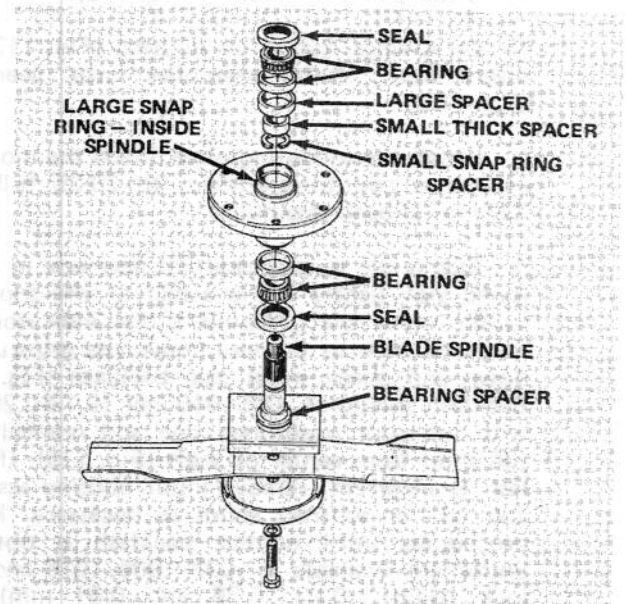
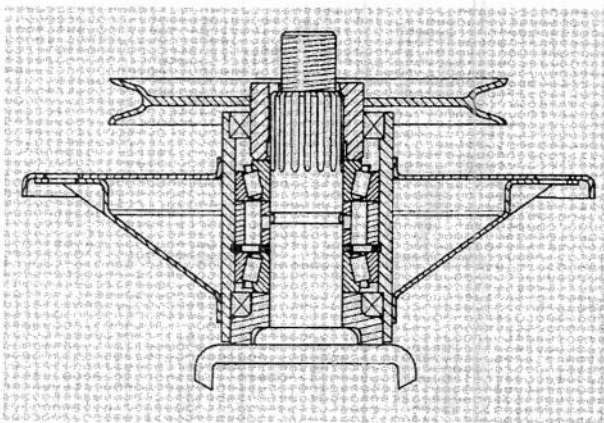
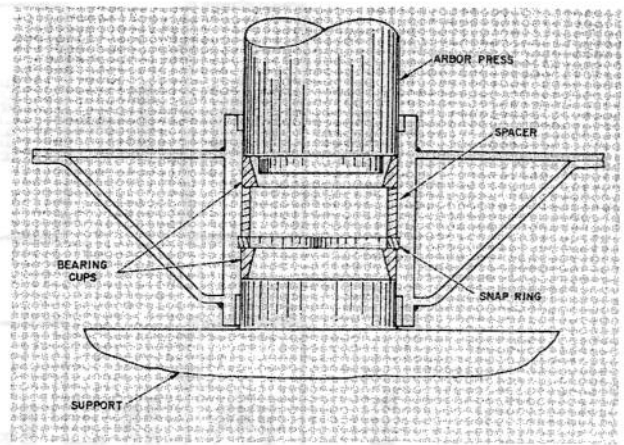

Figure 118
Figure 119
Figure 120
7. If spindle shaft will be replaced, remove capscrew, lockwasher, anti-scalp cup and blade from spindle shaft (Fig. 118). Otherwise, the blade and its other associated parts may be left on the spindle shaft.
8. Press spindle shaft out of spindle housing (Fig. 118), using an arbor press. Bearing spacer (Fig. 118) remains on spindle shaft as shaft is being removed.
9. The seals (Fig. 118) will be removed next; however, notice the lip of the seal. The lip of the upper seal faces inward, and the lip of the lower seal faces outward. Therefore, new seals must always be
10. Allow bearings, small thick spacer and small snap ring spacer to fall out of spindle housing (Fig. 118).
11. Using a punch and hammer, drive both bearing cups (Fig. 118) out of spindle housing. Also drive large spacer (Fig. 118) out of housing.
1. Install large snap ring into groove in bore of spindle housing (Fig. 119). Assure snap ring is seated in the groove.
2. Using an arbor press, push the large spacer into top of spindle housing and tightly against the snap ring (Fig. 118). Spacer must contact snap ring to be sure of correct assembly of parts (Fig. 119).
3. Thoroughly oil cups and using an arbor press, push bearing cups — smallest ID first — into top and bottom of spindle housing (Fig. 118). Top bearing cup must contact spacer that was installed in step 2, and bottom bearing cup must contact
snap ring to be sure of correct assembly of parts (Fig. 119). Insure assembly is correct by supporting the first cup and pressing the second against it (Fig. 120).
4. Apply a film of grease on lip of both seals; then install bearing and seal into bottom of spindle housing (Fig. 119). Remember, the bottom seal must have the lip facing outward (Fig. 118), not toward inside of spindle housing.
5. Slide small snap ring spacer and small, thick spacer into spindle housing (Fig. 118). Install bearing and seal into top of spindle housing. Lip of the seal must face inward.
7. Slide bearing spacer onto spindle shaft. Carefully slide spindle shaft through spindle housing. Bottom seal and bearing spacer fit together when spindle is installed (Fig. 119).